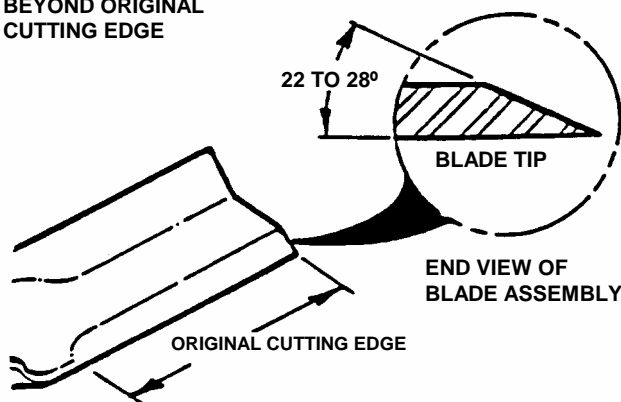

FIGURE 4.4
4. Sharpen blade on a grinding wheel at an angle of 22 to 28 degrees. DO NOT sharpen blade beyond original cutting edge. See Figure 4.4.